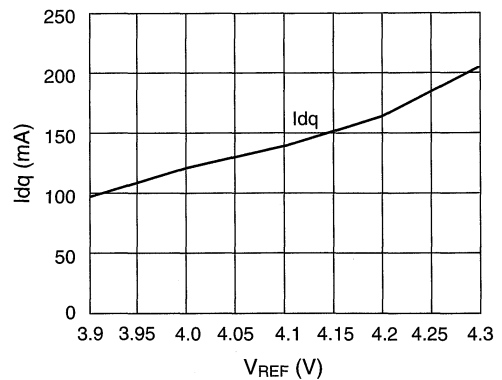

Figure 6. Quiescent Current vs. Reference Voltage
4. For Figures 6 and 7, V_{REF} was varied using a DC supply connected directly to the V_{REF} pin.